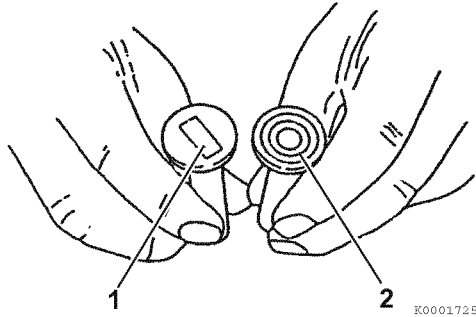

Figure 6-63
1. Inspect the tappet contact surfaces for abnormal wear (1, **Figure 6-63**). Normal wear will be even as shown in (2, **Figure 6-63**). Slight surface defects can be corrected using an oilstone.